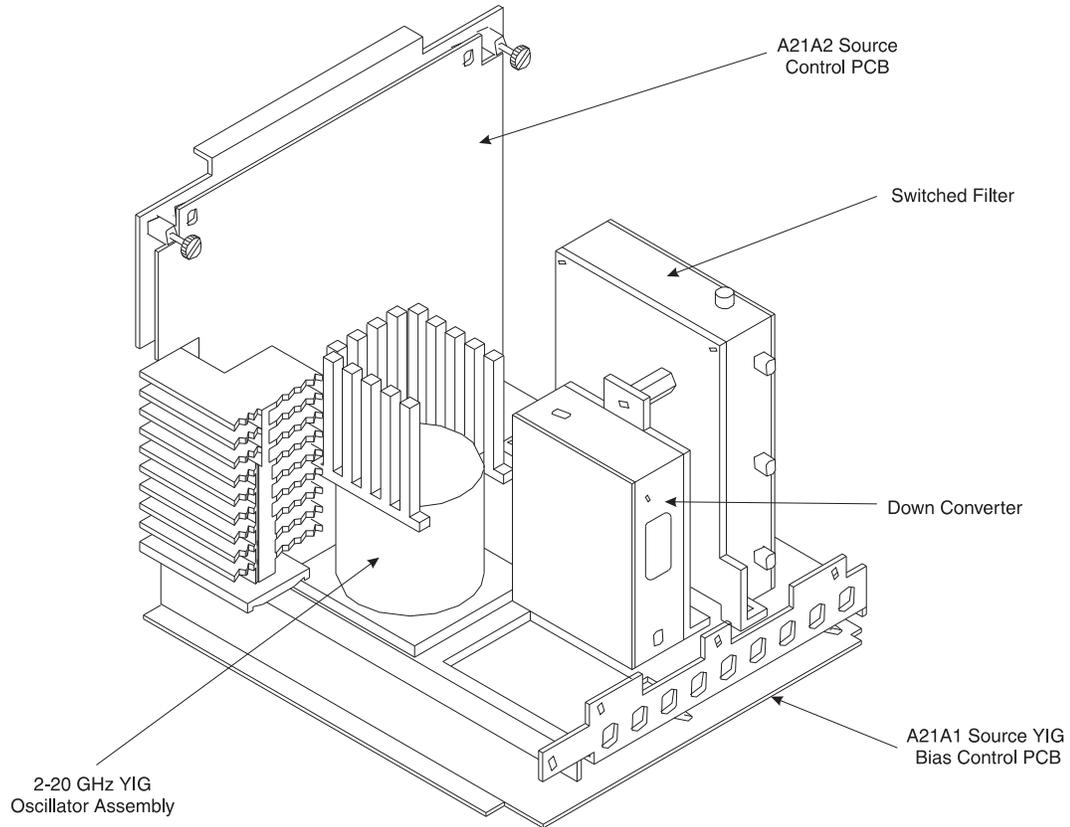

Figure 8-11. Signal Source Module Assemblies Removal Details
- Step 5. Remove the screw that fastens the front apron of the source module chassis to the heatsink of the A21A1 PCB. See Figure 8-11.